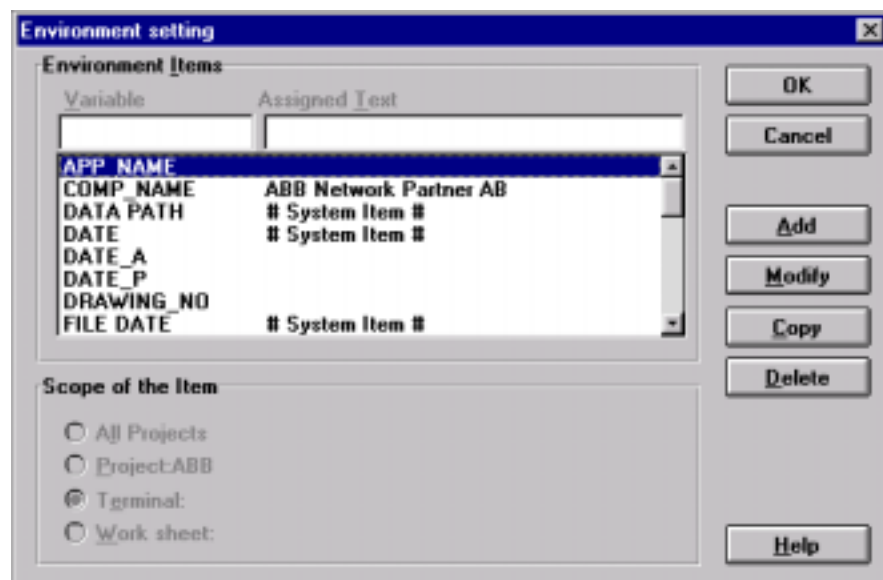

Fig. 53 The Environment Setting dialog box.
- 5 Select <OK>, and the Settings Environment Text appears and the new item is displayed in the list box. Fig. 53